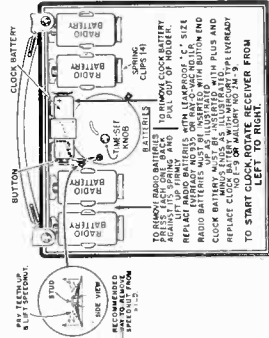

FIG. 1 - BATTERY & CLOCK INFORMATION
a. Remove (1) screws from the rear flap of cabinet.
b. Replace (1) "C" battery (see photo in fig. 1, page 2). Use Eveready #935, Ray-O-Vac #1LP, or equivalent.
a. Remove two (2) screws from rear flap of cabinet.
b. Replace mercury "A-A" battery as shown in fig. 1, page 2. Use Eveready #E-9 (mercury), Mallory #ZM-9, or equivalent. c. Close rear flap.
3. Unsolder two wire clock leads from battery clip terminals. 4. Pry speednut teeth up and lift off from stud. (See Fig. 1, page 2). 5. Clock may now be removed by pushing clock gently towards face of set (Support clock front with other hand).